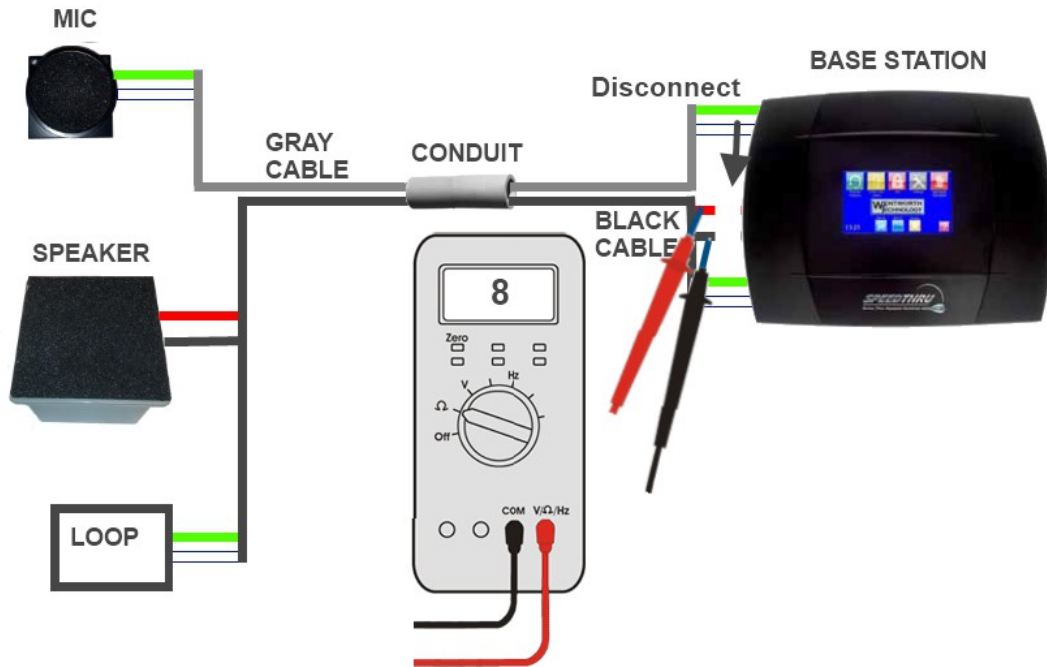

Figure 3: Testing the speaker at the base station (power off base for testing)
-Power off the base and remove speaker wires from the base. Set meter to Ohms and measure across the two speaker wires as shown in Figure 3.